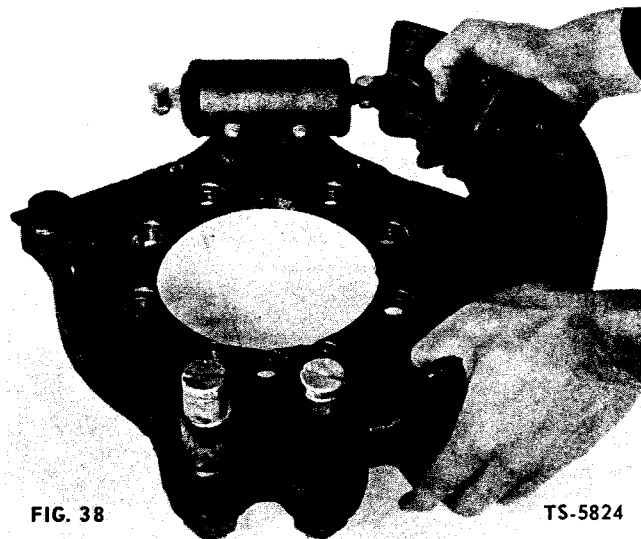

FIG. 38
4. Remove brake shoes (Fig. 38).